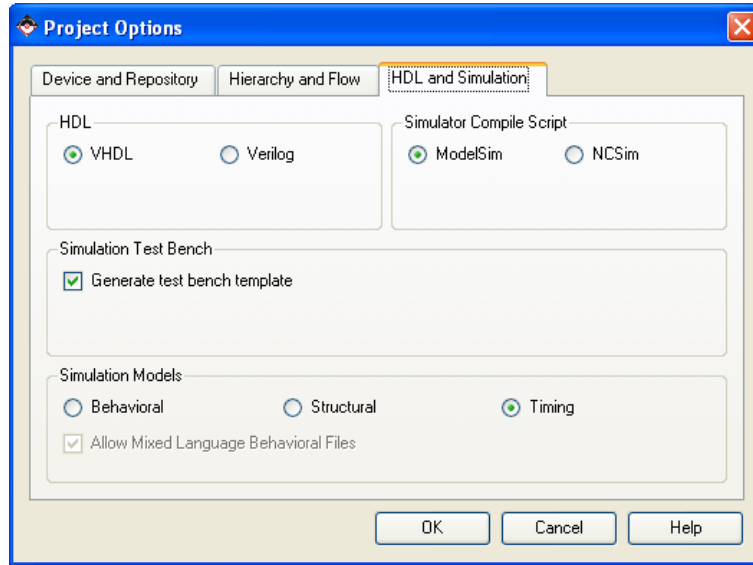

Figure 20: Change Simulation Setting for Timing Simulation
- The first step is to change the simulation setting for timing simulation by **selecting Project→Project Options**. Select **HDL and Simulation** tab and in the **Simulation Models** section select **Timing** as shown in Figure 20 and then **Click Ok**.